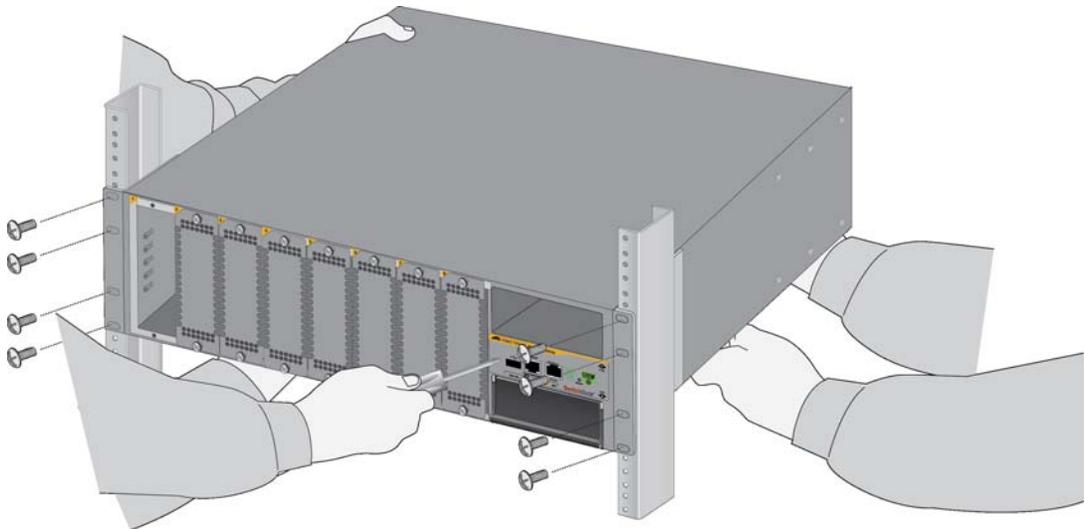

Figure 42. Securing the Chassis to the Equipment Rack
3. Have two other people hold the chassis in the equipment rack at the desired location while you secure it using eight standard equipment rack screws (not provided). Refer to Figure 42.